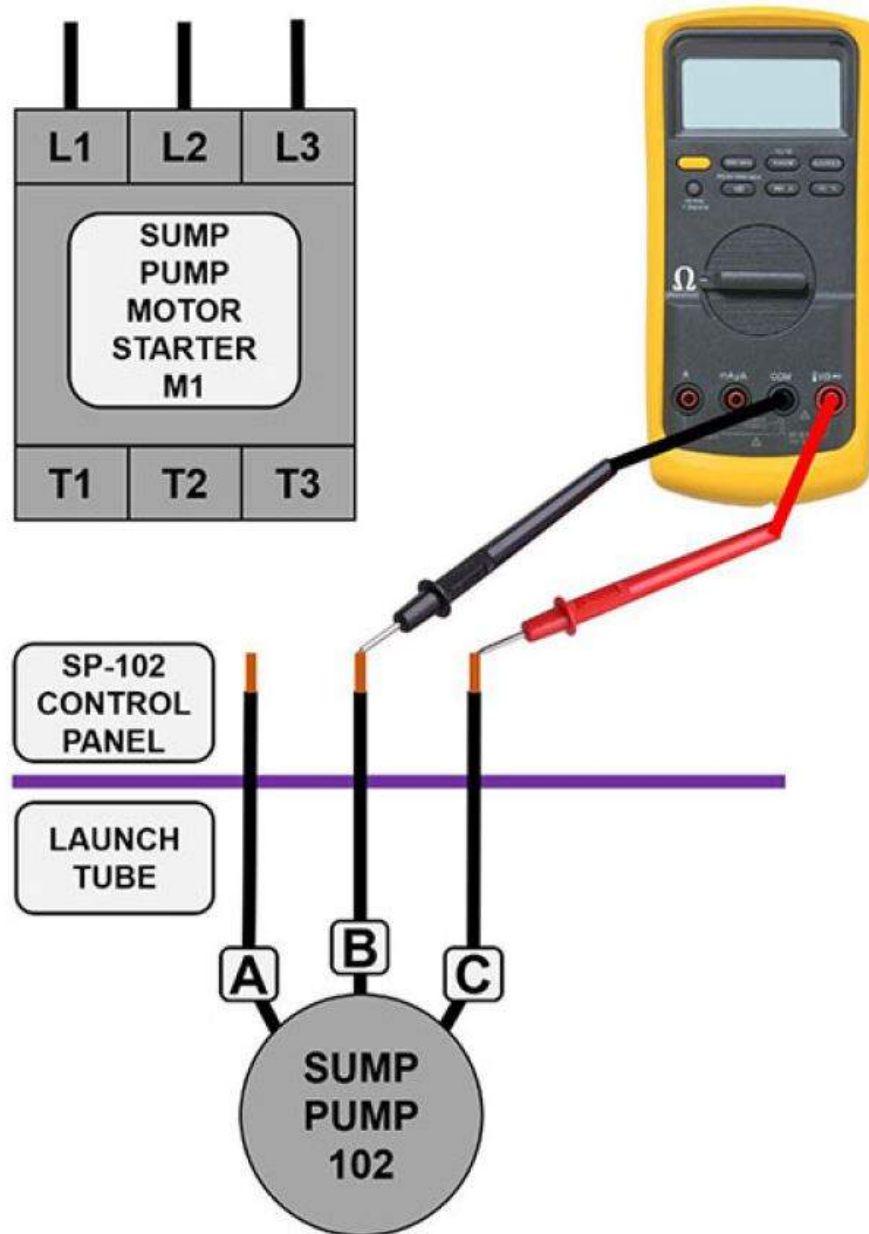

Figure 3-11. Testing a Motor Winding.
- Set your multimeter to read resistance and test each of the pump's phase wires to the other two wires (fig. 3-11) (A to B, A to C, B to C), and write down the resistance reading the meter shows for each of the three tests.